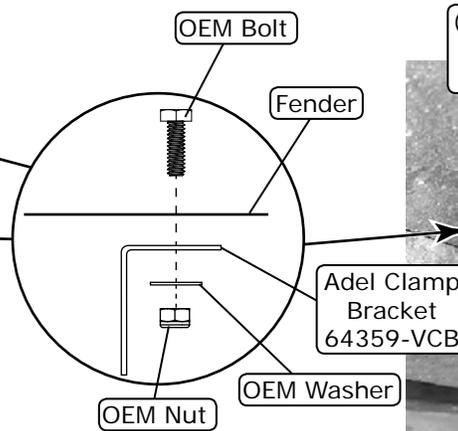

Figure 1
- 8. Locate the (2) Adel clamp brackets and install them onto the 3rd and 4th holes under the fender using OEM bolts, washers and nuts (See Photos 8, 9, 10, and Figure 1, below).
- 9. Install (2) #6 Adel clamps and (2) #10 Adel clamps using (2) 10-32 x 1/2" screws and (2) 10-32 nuts with star washers (See Photos 10 and 11, below).